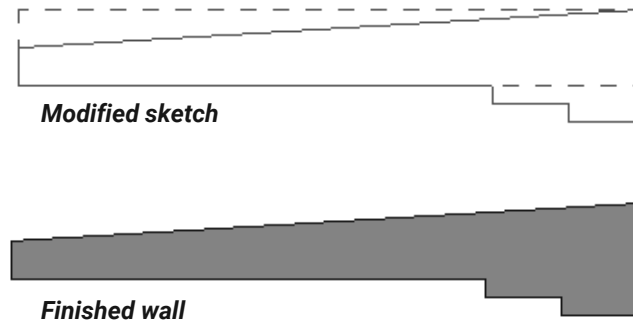

Figure 7–28
5. Once the profile is complete, click  (Finish Edit Mode). The wall now follows the new profile, as shown on the bottom in Figure 7–28.